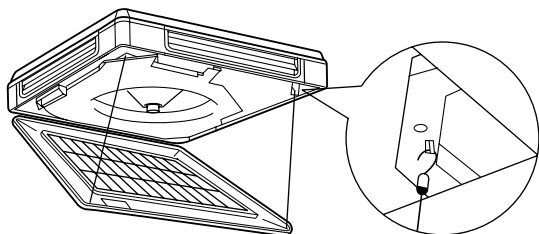

Fig. 37
- Hook the strings to the unit to prevent the grille from dropping. (Refer to Fig. 37)